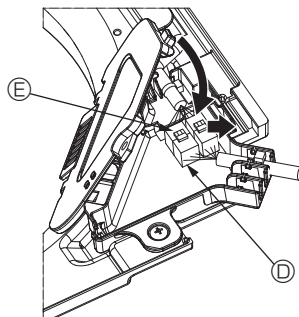

Fig. 5-10
- ③ After placing the wires in the connector box, close the connector box cover. Make sure that the wires do not get pinched. (Fig. 5-10)